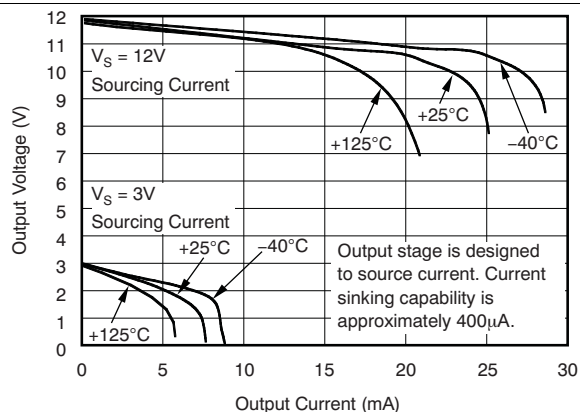

Figure 8. Positive Output Voltage Swing vs Output Current
- (1) Offset is extrapolated from measurements of the output at 20 mV and 100 mV V_{SENSE} .
- (2) Total output error includes effects of gain error and V_{OS} .
- (3) Linearity is best fit to a straight line.
- (4) For details on this region of operation, see the Accuracy Variations section.
- (5) See Typical Characteristics curve *Positive Output Voltage Swing vs Output Current* (Figure 8).
- (6) Specified by design; not production tested.